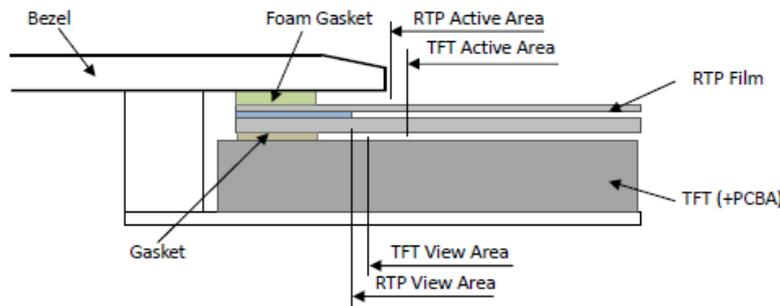

Figure 5
- In general design, RTP V.A. should be bigger than the TFT V.A. and RTP A.A. should be bigger than the TFT A.A. (Figure 5)
- 通常设计时：RTP的可视区 V. A. 应不小于TFT 的可视区 V. A. 及RTP的动作区 A. A. 应不小于TFT 的动作区 A. A. (附图5)